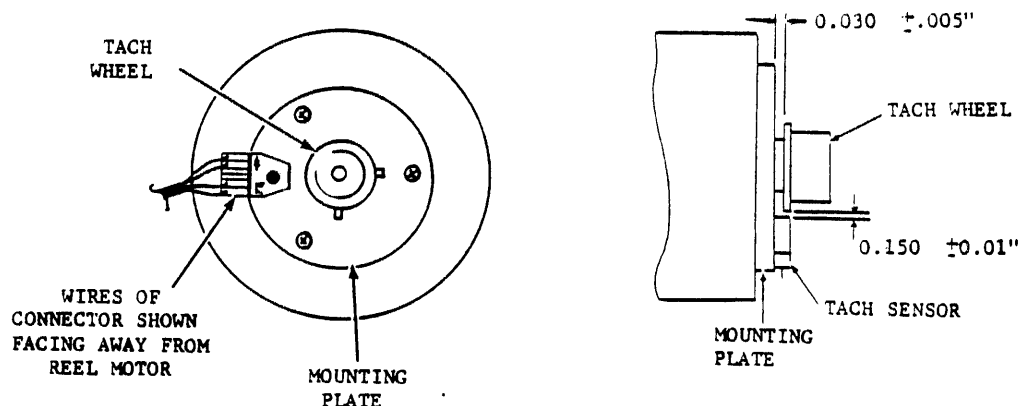

Figure 6-14. TACH/SENSOR ASSEMBLY/ADJUSTMENTS
2. Assemble sensor and tach wheel (from steps 6 and 7 of Removal) onto rear of motor mounting plate and shaft as shown in Figure 6-14 and adjust per tolerance requirements listed in the Supply Motor Tach and Sensor Procedures.
5. Attach W3P5 connector to tach sensor pins as shown in Figure 6-14.
Replacement (Refer to Figure 6-14)